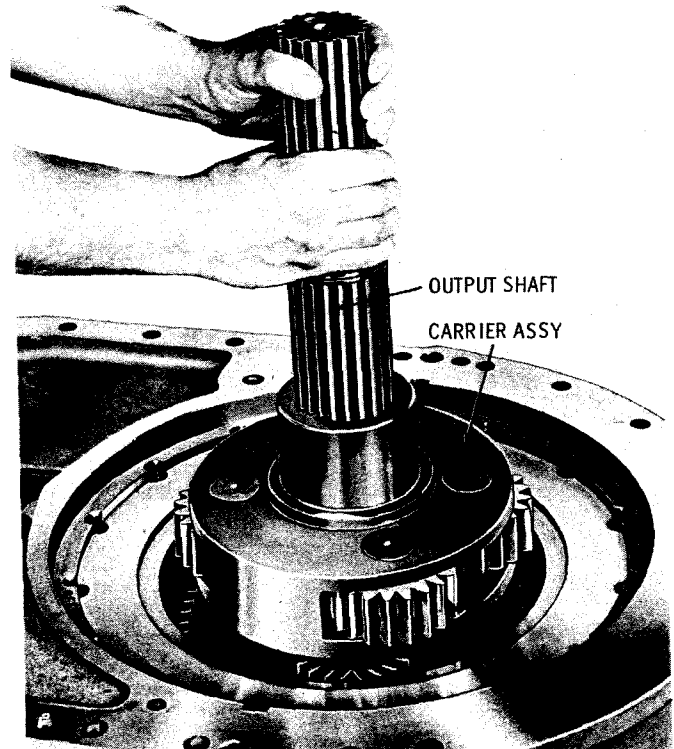

Fig. 5-65. Removing output shaft and low-range planetary carrier assembly
(4) Remove the low-range planetary carrier assembly and transmission output shaft, as a unit, from the transmission (fig. 5-65). Remove the output shaft from the carrier assembly. Refer to paragraph 6-27 for rebuild of the carrier assembly.